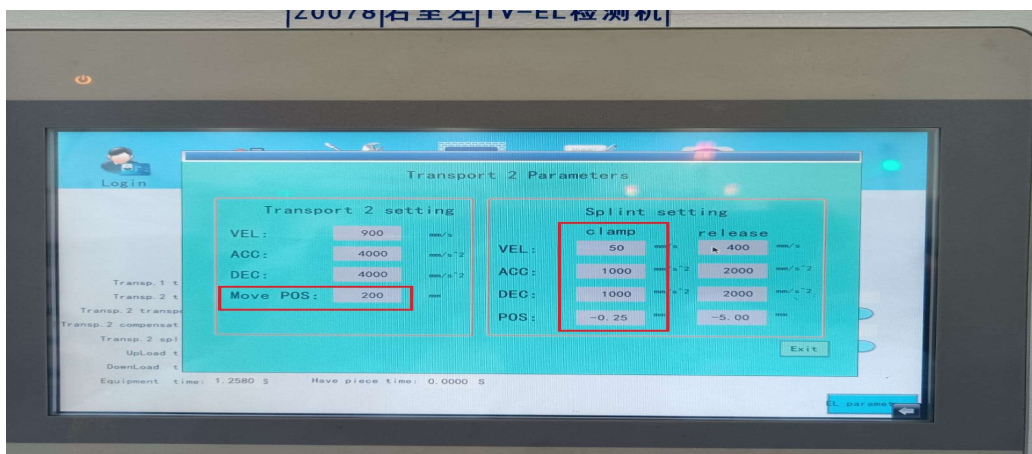

Figure 1
- **Figure 1** is for splint parameter and **figure 2** is for upload parameter.